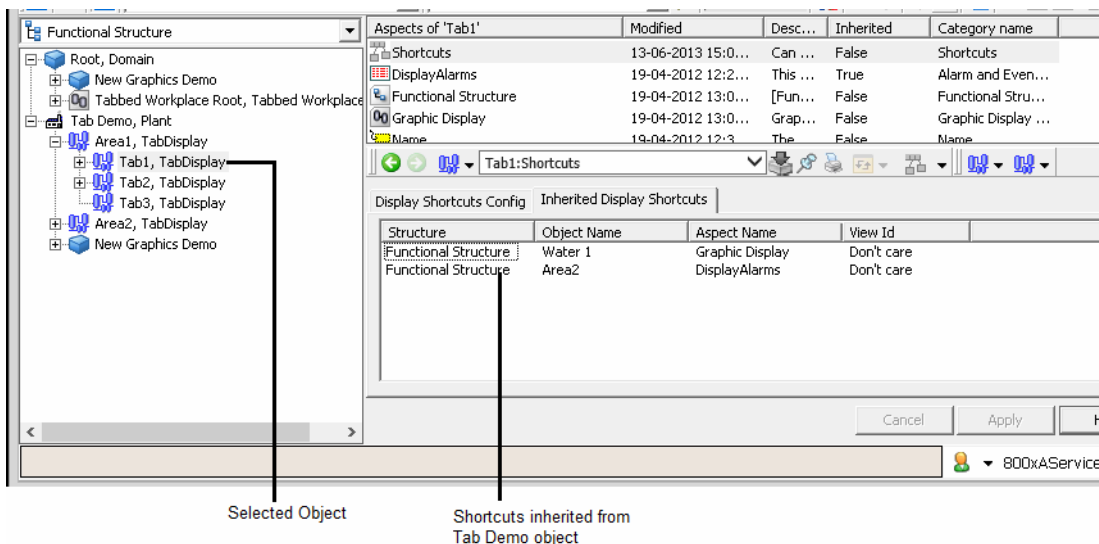

Figure 31. Structure Inheritance Option Example
**Display Shortcut Inheritance.** Display shortcuts can be inherited in the Functional Structure. This means that an aspect object with the Structure Inheritance option set can “see” the defined Display Shortcuts of parent objects, up to the root or until finding a parent object for which the Structure Inheritance option is not set. If the **Structure inheritance** check box is selected (see Figure 31), the Display Shortcuts will be inherited.